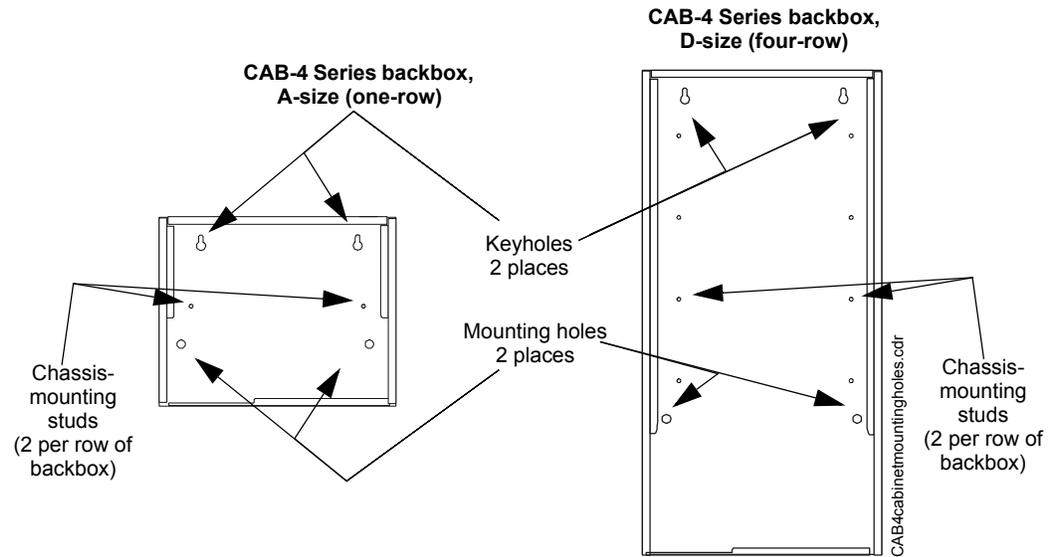
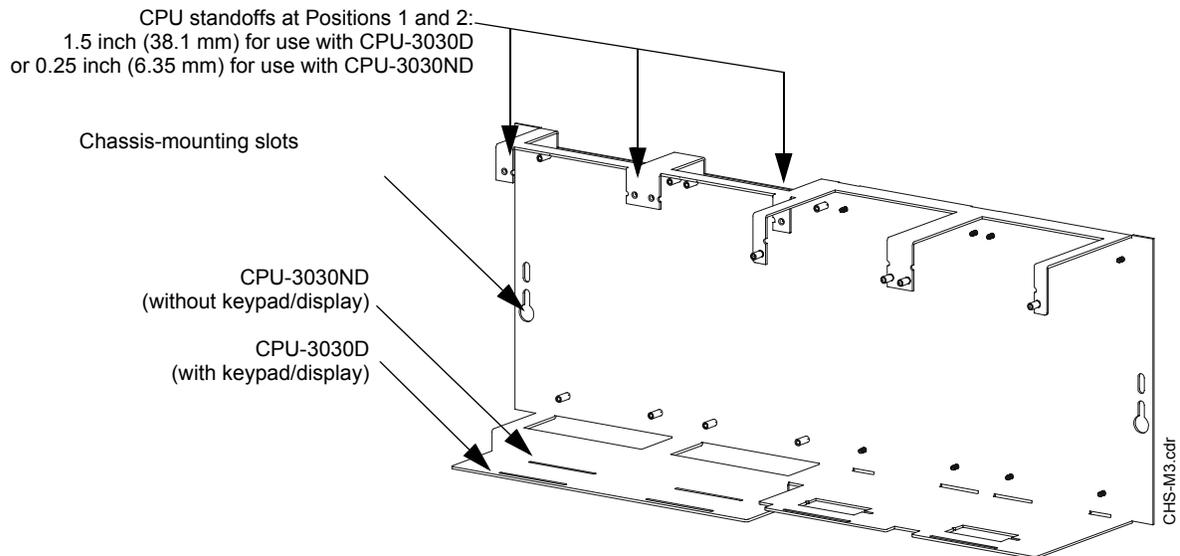

Figure 3.1 Backbox-Mounting Holes and Chassis-Mounting Studs
Figure 3.4 Standoffs on Chassis CHS-M3
- Use the four holes in the back surface of the backbox to provide secure mounting (See Figure 3.1).
1. Attach four stand-offs to chassis as shown in Figure 3.4.
2. Slide circuit-board tabs into slots on chassis as shown in Figure 3.4.
Align chassis-mounting slots with chassis-mounting studs (see Figure 3.1 and Figure 3.4 for locations). Secure with nut & lock-washer provided with chassis.